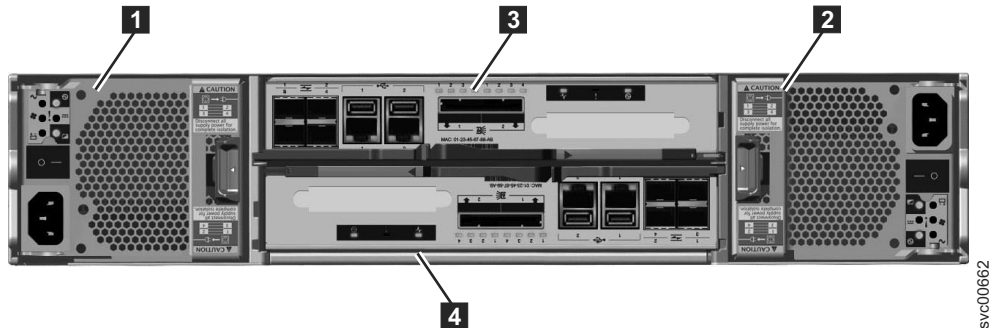

Figure 3. Rear view of a model 2076-112 or a model 2076-124 control enclosure
Figure 3 shows the rear view of a control enclosure and identifies the location of the power supply units and the canisters.
- Two canisters are housed in the middle of the enclosure. Each canister is known as a node canister. The upper canister, as shown in Figure 3, is labeled **3**, and the lower canister is labeled **4**. Canister **3** is top side up, and canister **4** is inverted, or top side down.